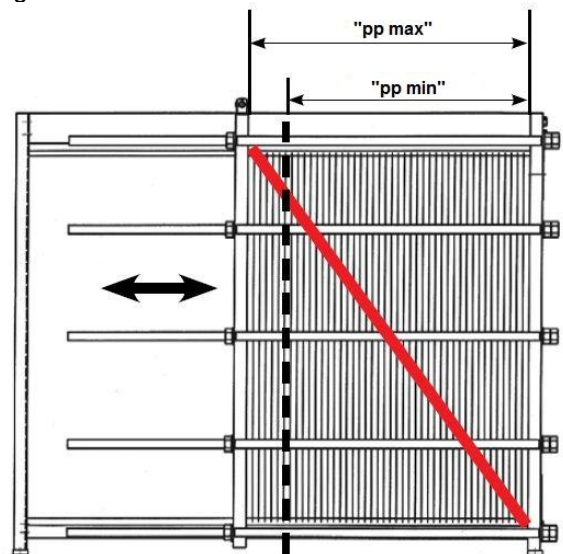

Fig. 20
***If all gaskets and plates have been completely replaced tighten to “pp max” (figure 20).***